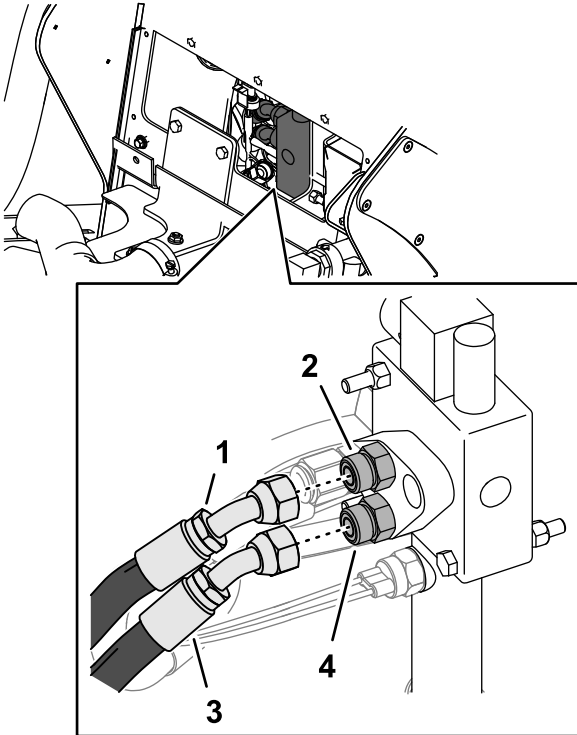

Figure 9
1. Mark the upper loader hose "Port B", and remove the hose from the auxiliary valve fitting (Figure 9).